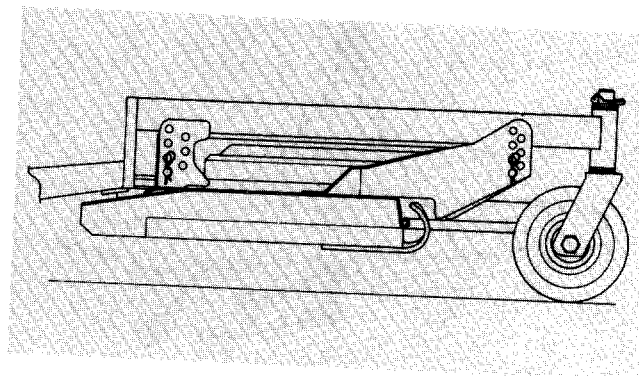

Figure 20
2. Raise height-of-cut to the 3½" (89 mm) or 4 in. (102 mm) position (Fig. 20): refer to Adjusting Height-Of-Cut, page 8.
- A. Cutting units usually operated at 1 to 2 in. (25 to 51 mm) height-of-cut should have the low side of the cutting unit raised. Remove the lynch pin securing castor wheel on low end (Fig. 20) and remove castor assembly.